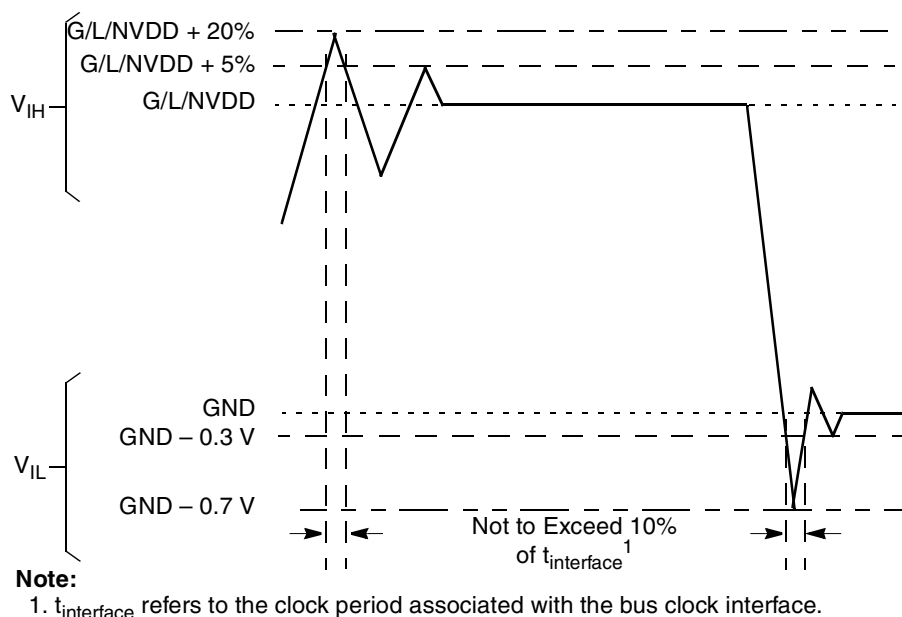

Figure 2. Overshoot/Undershoot Voltage for GVDD/NVDD/LVDD
- (M,N,L)V_{IN} and MVREF may overshoot/undershoot to a voltage and for a maximum duration as shown in Figure 2.
Figure 2 shows the undershoot and overshoot voltages at the interfaces of the MPC8315E.